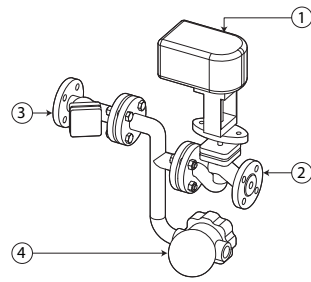

Fig. 4.b
- For threaded control valves, SAKV****U*, with an optional fitting kit, SAKR****U*, attach the fittings to the valve as shown in figure 4.a.
- Attach the ① optional actuator, SAKA****, to the ② control valve.